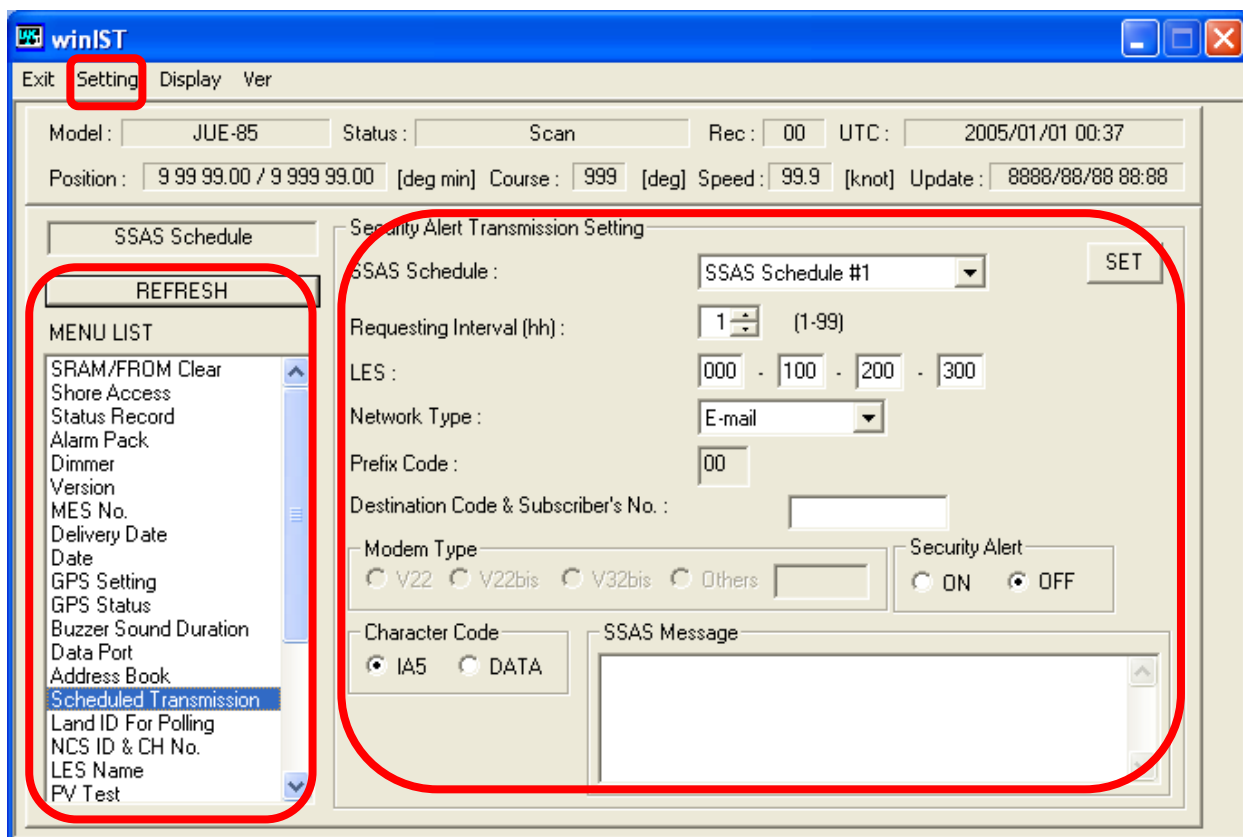

Fig. 3.2.1c SSAS Schedule screen display
2. Operation except [Exit], [Display], and [Ver] is not available during winIST is communicating with INMARSAT terminal. (the function of inner frame of **Fig. 3.2.1c SSAS Schedule screen display** cannot be operated.)